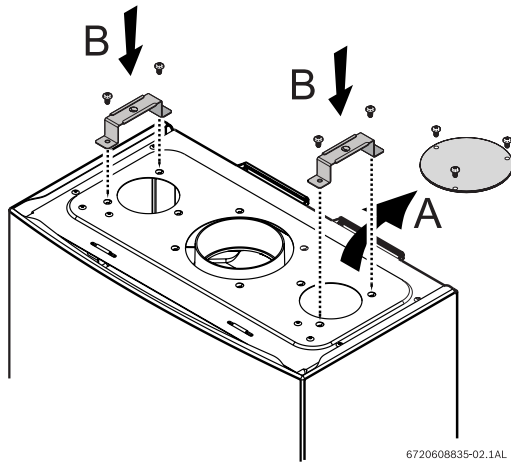

Fig. 2
- ▶ 1. Remove the cover plate (A) installed on the top of the appliance, as shown in Fig. 2.
- ▶ 2. Fix the supports (B) to the appliance by fastening the four provided screws, as shown in Fig. 2.